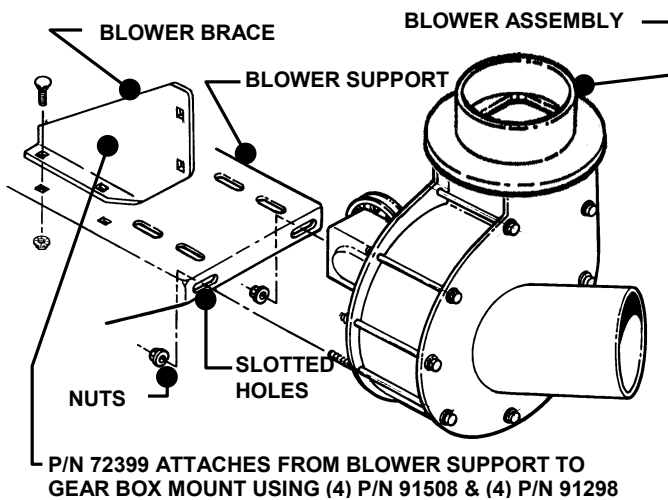

FIGURE 1.7
4. Remove the 5/16-18 Nyloc nuts from the appropriate blower assembly bolts as shown in Figure 1.7.
5. Attach the blower assembly to the support as shown in Figure 1.7. Leave room for adjustment.